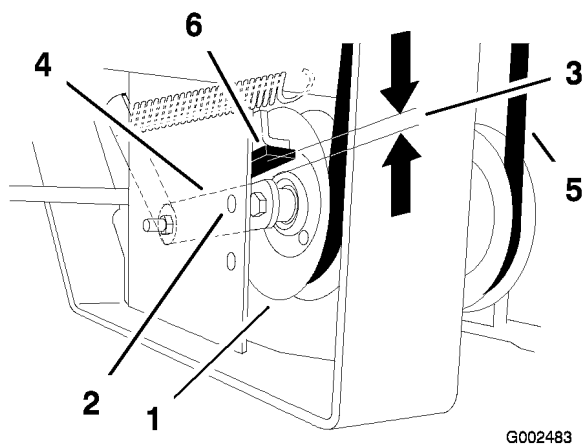

Figure 53
9. Check the distance from the rubber stop and the arm of the spring loaded idler pulley when the idler plate is tightened. It needs to be 0 to 1/4 inch (0 to 6 mm) from the rubber stop (Figure 53).